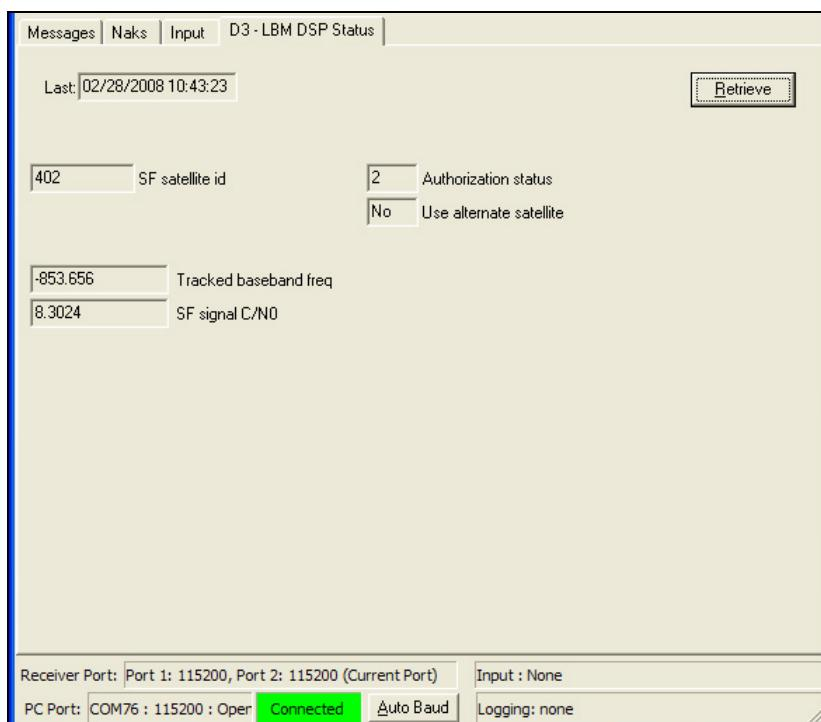

Figure 82: D3 – LBM DSP Status
- Select *View > D3 – LBM DSP Status*. The *D3-LBM DSP Status* tab opens (see Figure 82). Click the *Retrieve* button. Yes is the entry in the field to the left of *Use alternate satellite*.